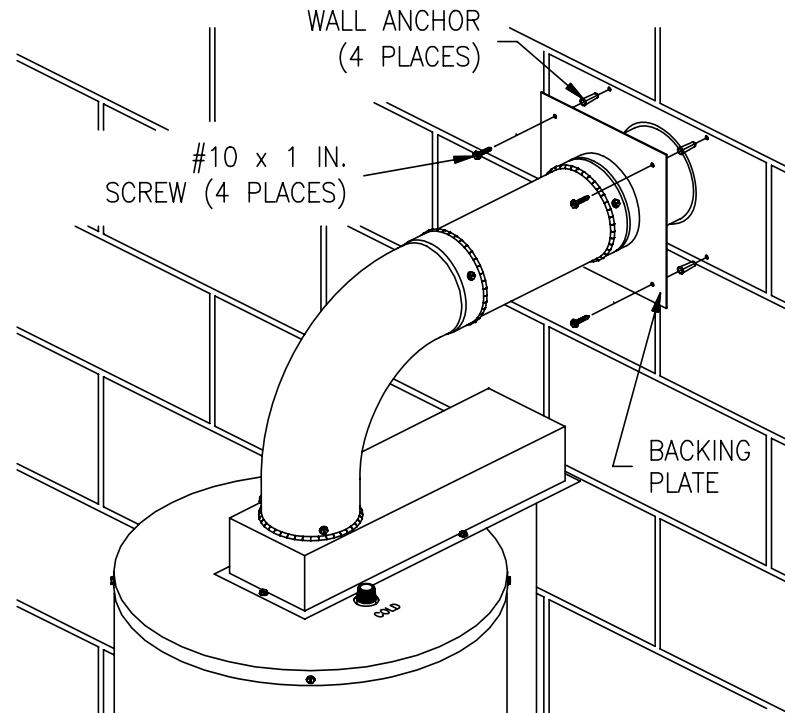

Figure 16.
12. Mark the mounting screw hole locations for the backing plate. Rotate the backing plate in order to gain access to the markings. With a 3/16 (4.75 mm) inch diameter drill bit (not supplied), drill holes for the supplied wall anchors. Install the wall anchors and secure the backing plate to the wall with four (4) #10 x 1 inch screws (supplied) (See Figure 16). Note: Certain construction of walls may require the use of a different type of anchoring means than supplied.